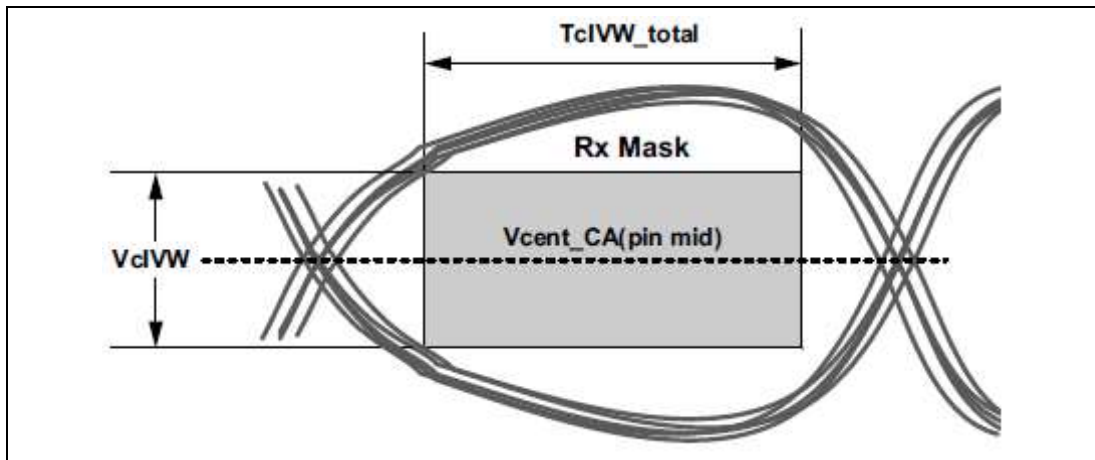

Figure 166 - CA Receiver (Rx) Mask
The command and address (CA) including CS input receiver compliance mask for voltage and timing is shown in Figure 166. All CA, CS signals apply the same compliance mask and operate in single data rate mode.